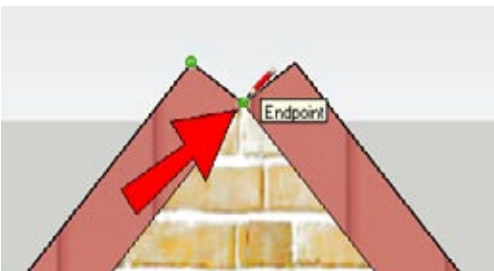

Figure 5-6
6. Hover the cursor over the valley point indicated in Figure 5-6; look for the *Endpoint* inference.